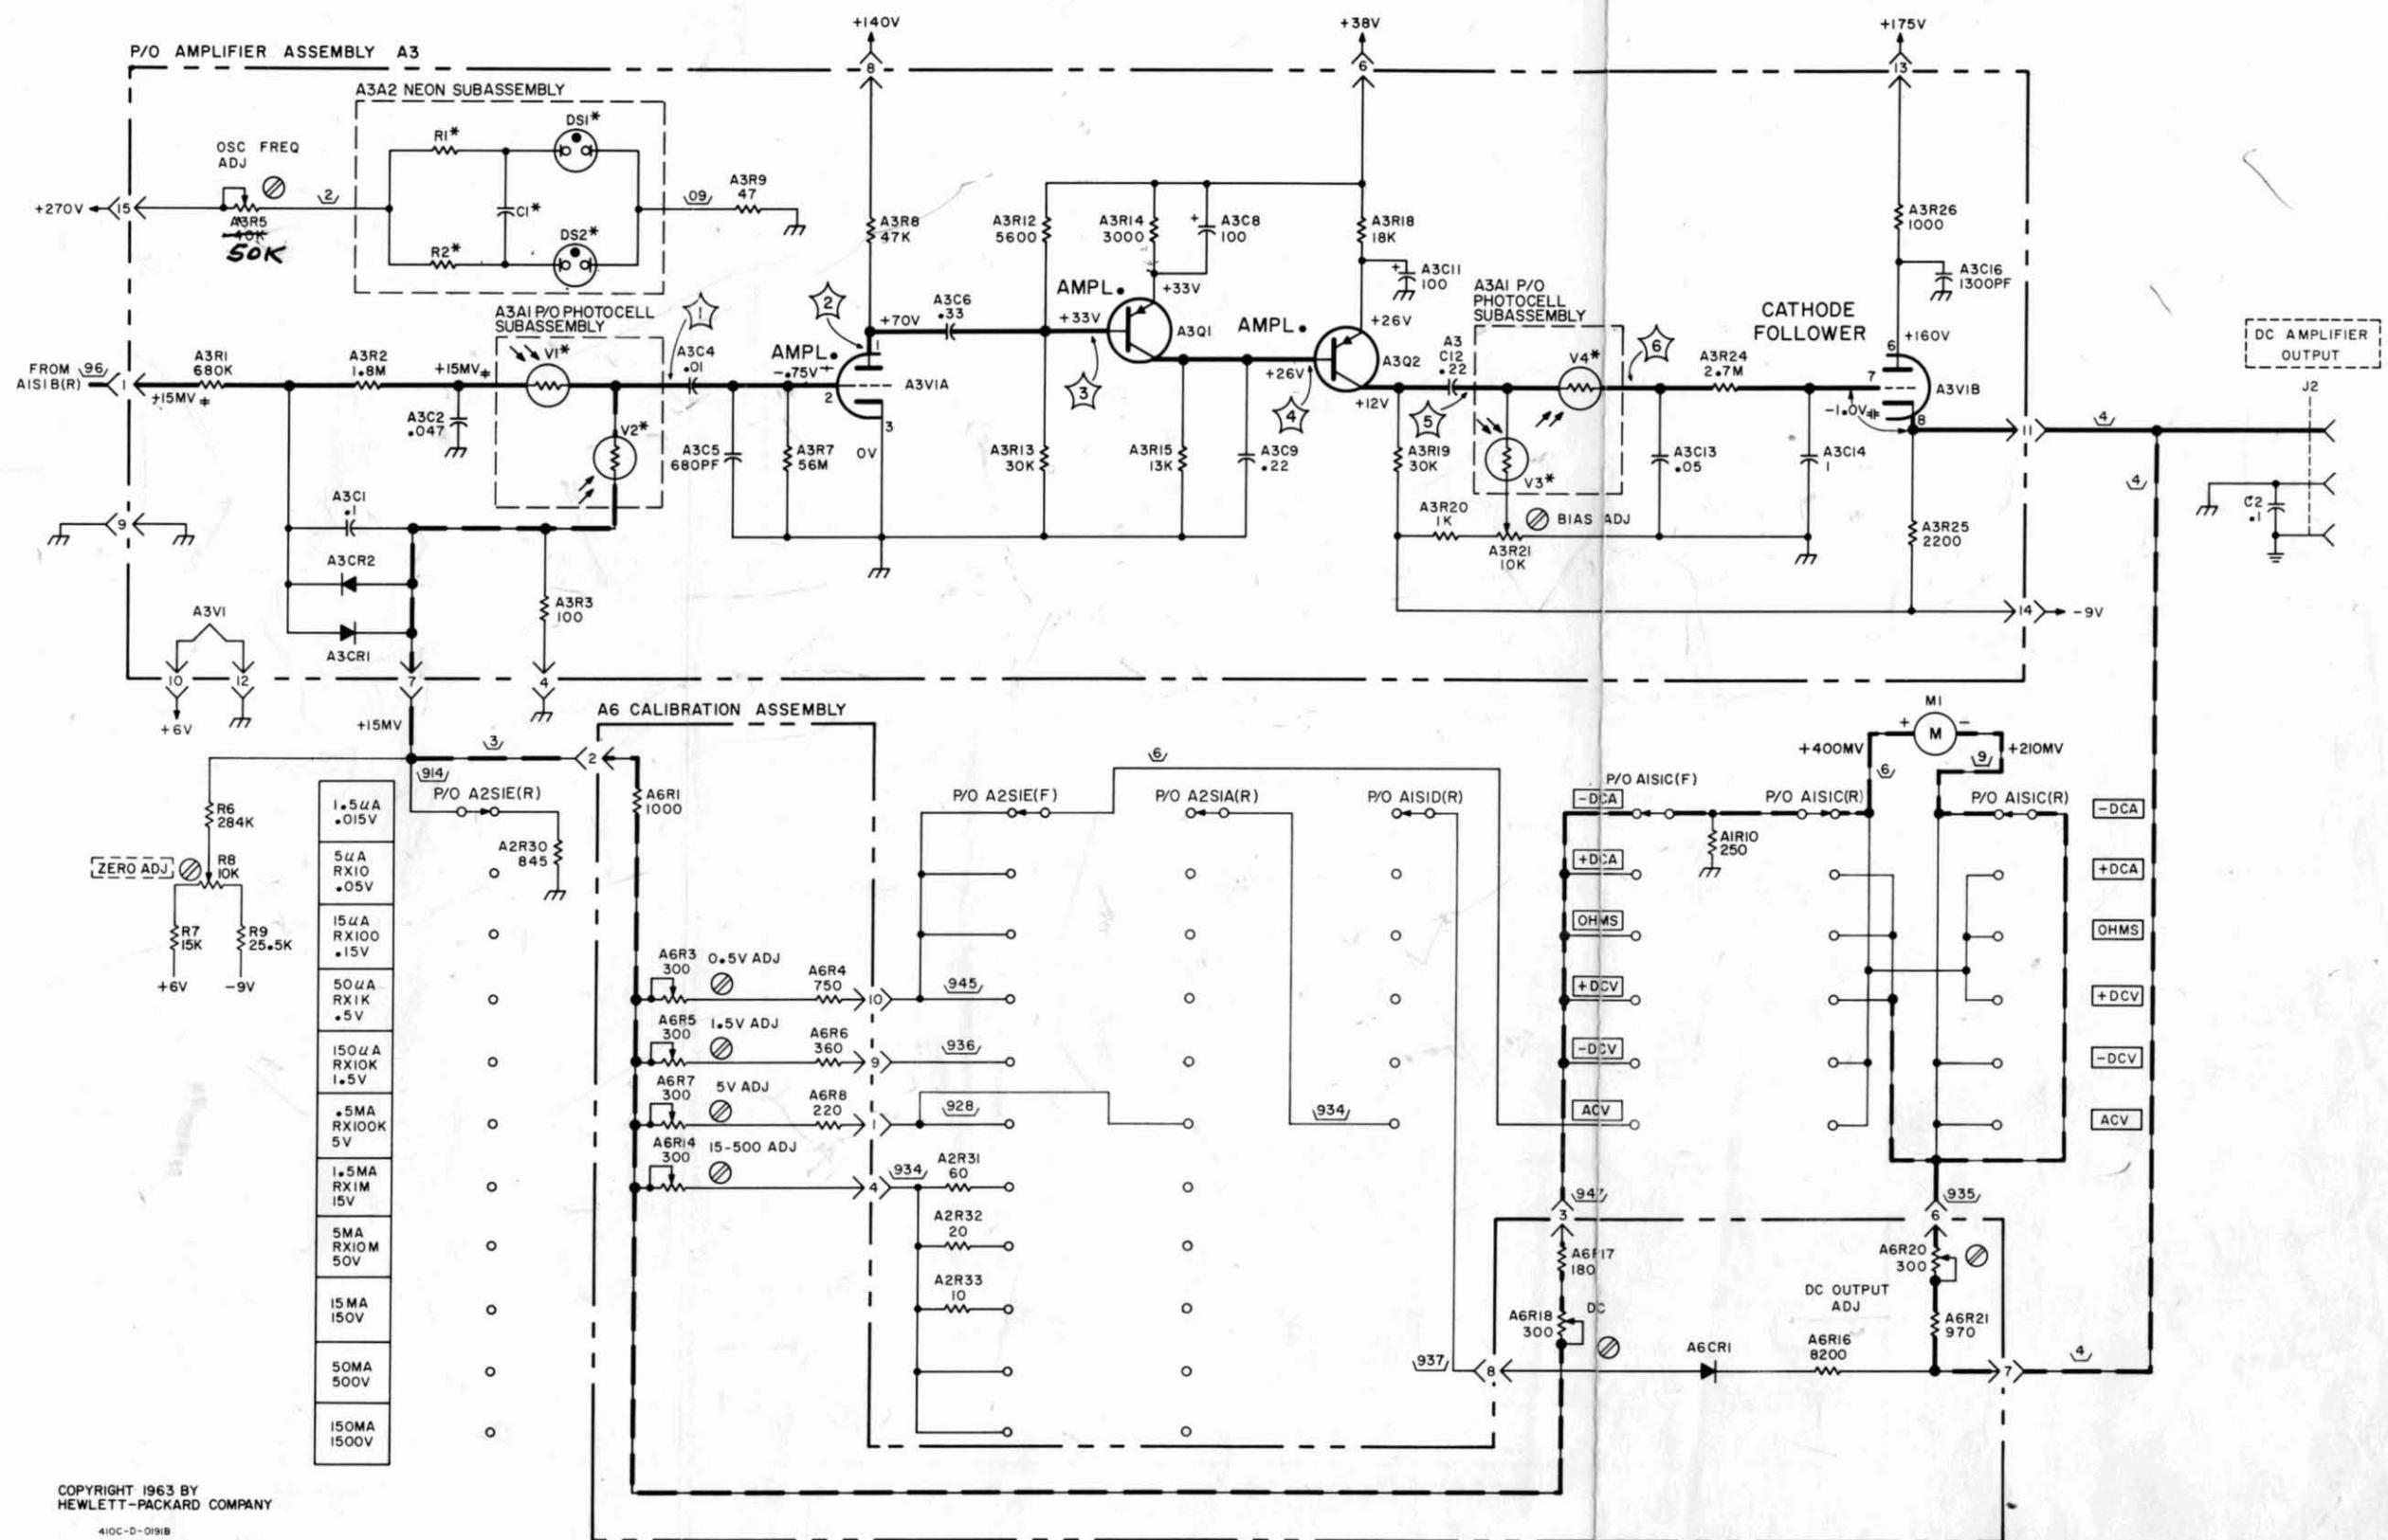

Figure 5-11. Amplifier Schematic
In -DCV, pointer deflects 1/2 scale. In +DCV, pointer pegs downscale.	Check A3C5 (Figure 5-11).
In +DCV, pointer pegs downscale. In -DCV, pointer pegs upscale.	Check A3Q1, A3C6 or A3C12 (Figure 5-11).
*Meter pegs upscale on all ranges. +DC Amplifier output is high regardless of mode of operation.	Check for open resistor in amplifier feedback loop or shorted A1R10 (Figure 5-11).
- ③ With Model 410C FUNCTION SELECTOR to +DCV; RANGE 0.015 v; overdrive with a +0.5 v input. Measure the dc voltage at the DC AMPLIFIER OUTPUT on Model 410C rear panel. Output should be approximately +4.0 v. If this measurement is correct, disconnect source and short DCV probe and COM lead. If output is zero, proceed to ⑤; if not, proceed to ④.
- ④ Trace circuit from Pin 11, A3 to Pin 2, A6. Use ohmmeter to check values of A6R21, A6R20, A6R17 and A6R1. Refer to Figure 5-11 for pertinent component values. Check pertinent dc voltages under conditions listed in NOTE No. 4.
- ⑤ Measure the dc voltage at Pin 1, A3. This voltage is typically 13-15 mv. If this voltage is correct, proceed to ⑦; if not, proceed to ⑥.
- ⑥ Investigate switch circuit. Refer to asterisks in Table 5-9 for hints on how to troubleshoot switch circuit.
- ⑧ Investigate the demodulator and cathode follower A1V3B. Refer to Figure 5-11 for typical voltage and parameter values under conditions listed in NOTE No. 4. Refer to Table 5-9 for method to check for open demodulator.
- ⑨ Investigate the modulator and amplifier to include A1V1A, Q1 and Q2. Refer to Figure 5-11 for typical voltage and parameter values under conditions listed in NOTE No. 4. Refer to Table 5-9 for method to check for open modulator.